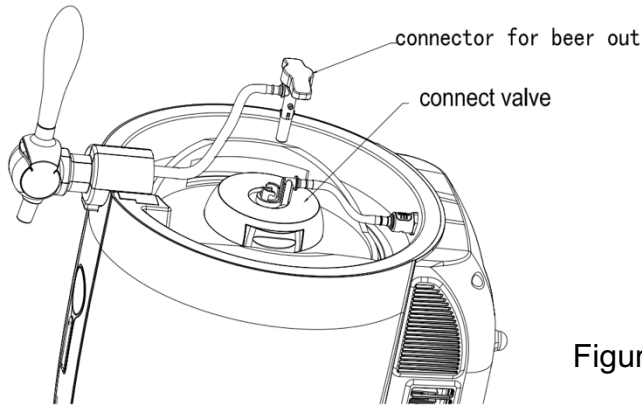

Figure 13
2. Press down the quick connector assembly at the end of the beer pipe on the tap assembly, at the same time turn the connector anticlockwise out of the engagement position of the wine valve device, and then pull out the connector (as shown in figure 13).